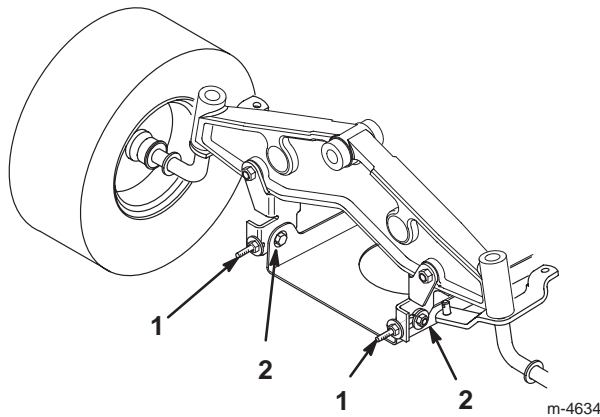

Figure 54
14. To adjust the front-to-rear blade slope, loosen the front pivot plate mounting bolts slightly (Fig. 54).
15. Rotate the locknuts on the eyebolts to change the adjustment (Fig. 54). To raise the front of the mower, tighten the eyebolt locknuts. To lower the front of the mower, loosen the eyebolt locknuts.
17. When the front-to-rear slope is correct, tighten the pivot plate mounting bolts (Fig. 54).